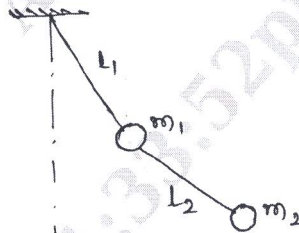

Fig.Q7(a)
- 7 a. Obtain the natural frequencies of the double pendulum as shown in Fig.Q7(a). Assume $l_1 = l$ and $l_2 = 2l$, $m_1 = m_2 = m$.